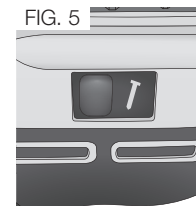

FIG. 5
### SEQUENTIAL ACTION / (FIG. 5)
1. Slide the selector switch to the left, as shown in Figure 5.